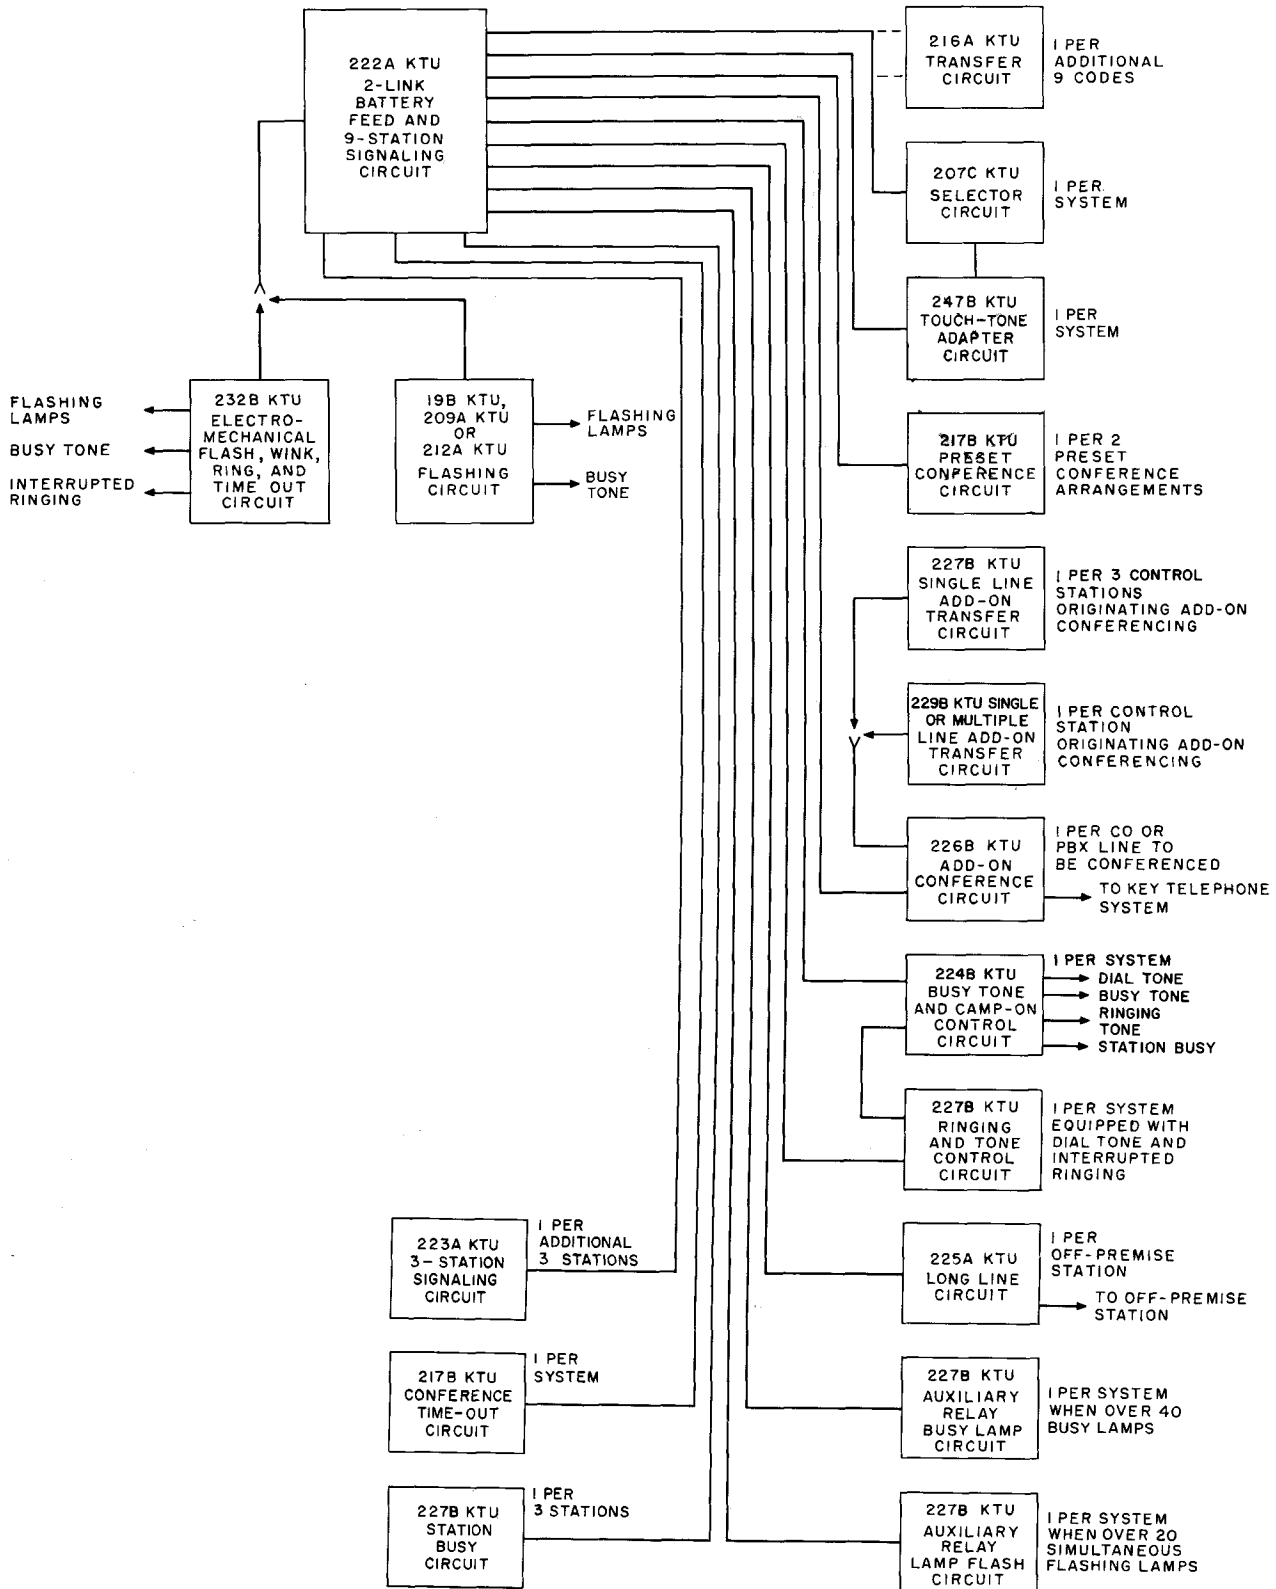

Fig. 4—Two-Link Arrangement
2.05 The two-talking link arrangement (Fig. 4) provides for: